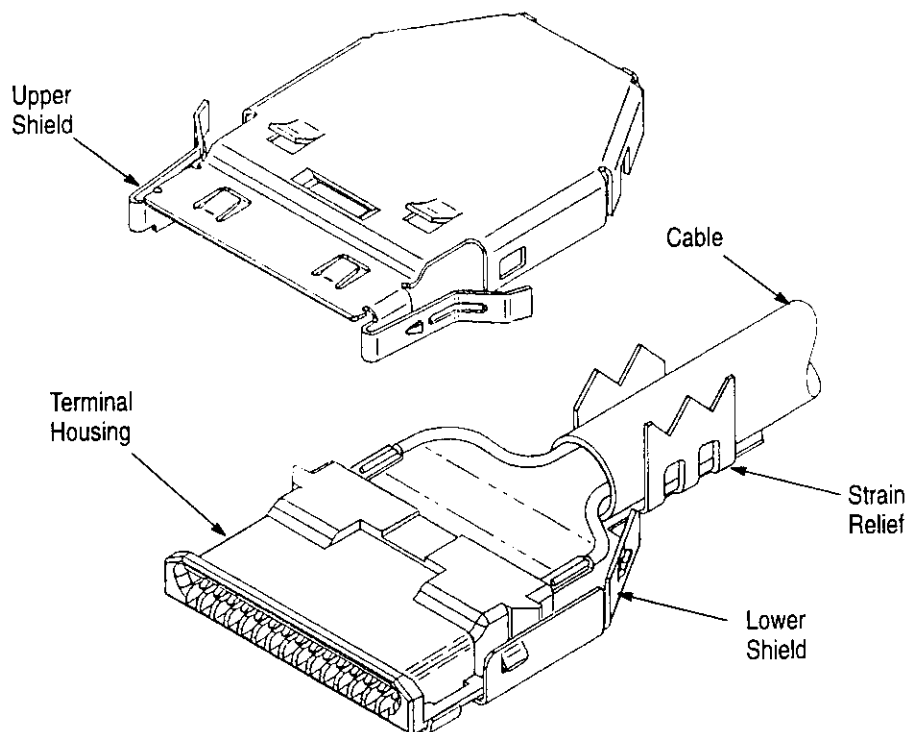

Figure 4
1. Snap the lower shield onto the housing. Lay the cable into the strain relief of the lower shield. See Figure 4.